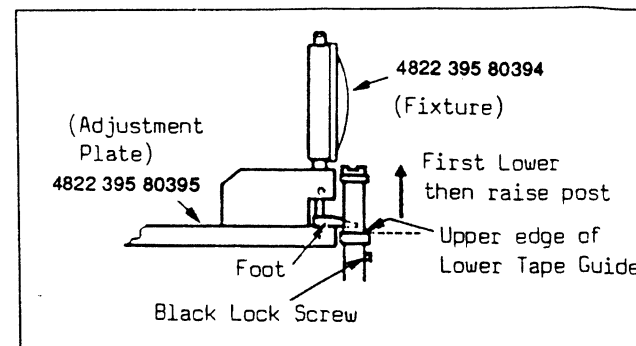

Fig. M12-2
2. First, lower all posts to match the height condition as shown in Fig. M12-2.
3. Place the fixture on the Adjustment Plate and fit the foot to the Adjustment Plate as shown in Fig. M12-2. (The foot of the fixture should be fully lowered until it touches the plate.)